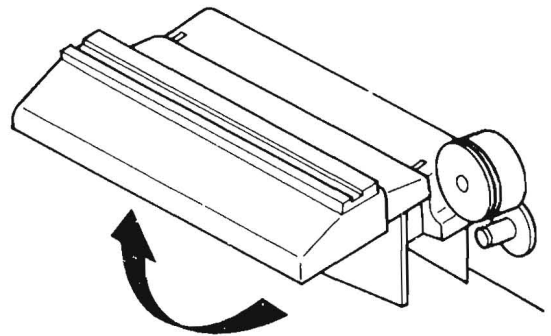
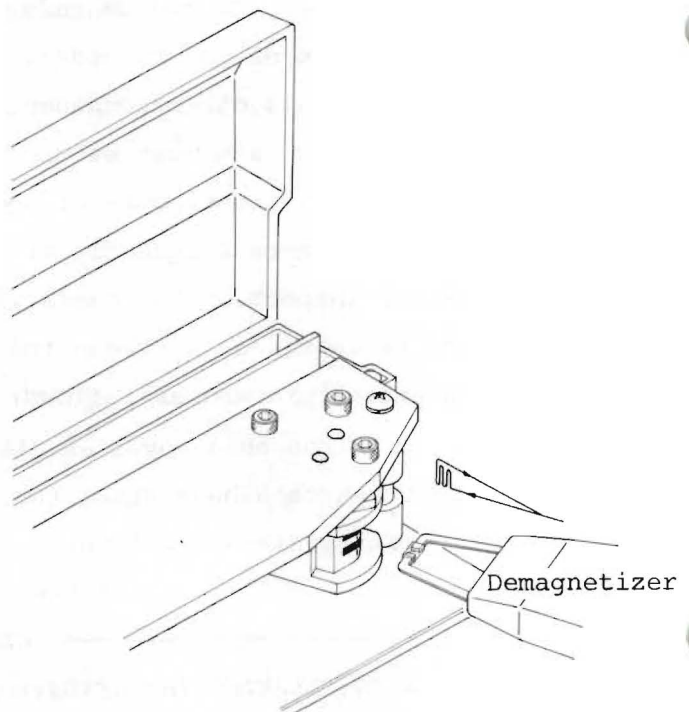

Fig. 4-1 Lifting the Head Cover
Fig. 4-2 Demagnetizing
- (1) Lift the head cover as illustrated in Fig. 4-1.
- (2) Clean each head stack thoroughly with a cottontipped applicator dampened with head cleaner.
(1) Turn the unit's power off and remove any recorded tape near the transport. The tape could be partially erased by the demagnetizer.
(2) Lift the head cover as illustrated in Fig. 4-1.
(3) Cover the demagnetizer tips with adhesive tape to prevent scratching the head stacks.
(4) With the demagnetizer held away from the transport, connect the demagnetizer to a power source.
(5) Move the demagnetizer tips slowly close to the head, lightly touch the face of one head stack and slowly move the tips up and down the stack several times. Then slowly withdraw the demagnetizer as shown in Fig. 4-2.
(6) Repeat step five for each head stack.
(7) Repeat the procedure in step five for each guide and other metallic parts in the tape path.
(8) Move the demagnetizer slowly away from the transport for at least three feet, and then disconnect the power from the demagnetizer.